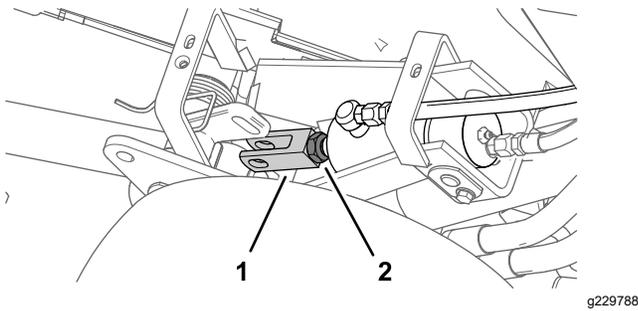

Figure 53
5. Rotate the clevis until you attain the desired height (Figure 53).
6. Assemble the clevis fitting to the lift arm with the clevis pin and retaining pin, and tighten the jam nut (Figure 52 and Figure 53).